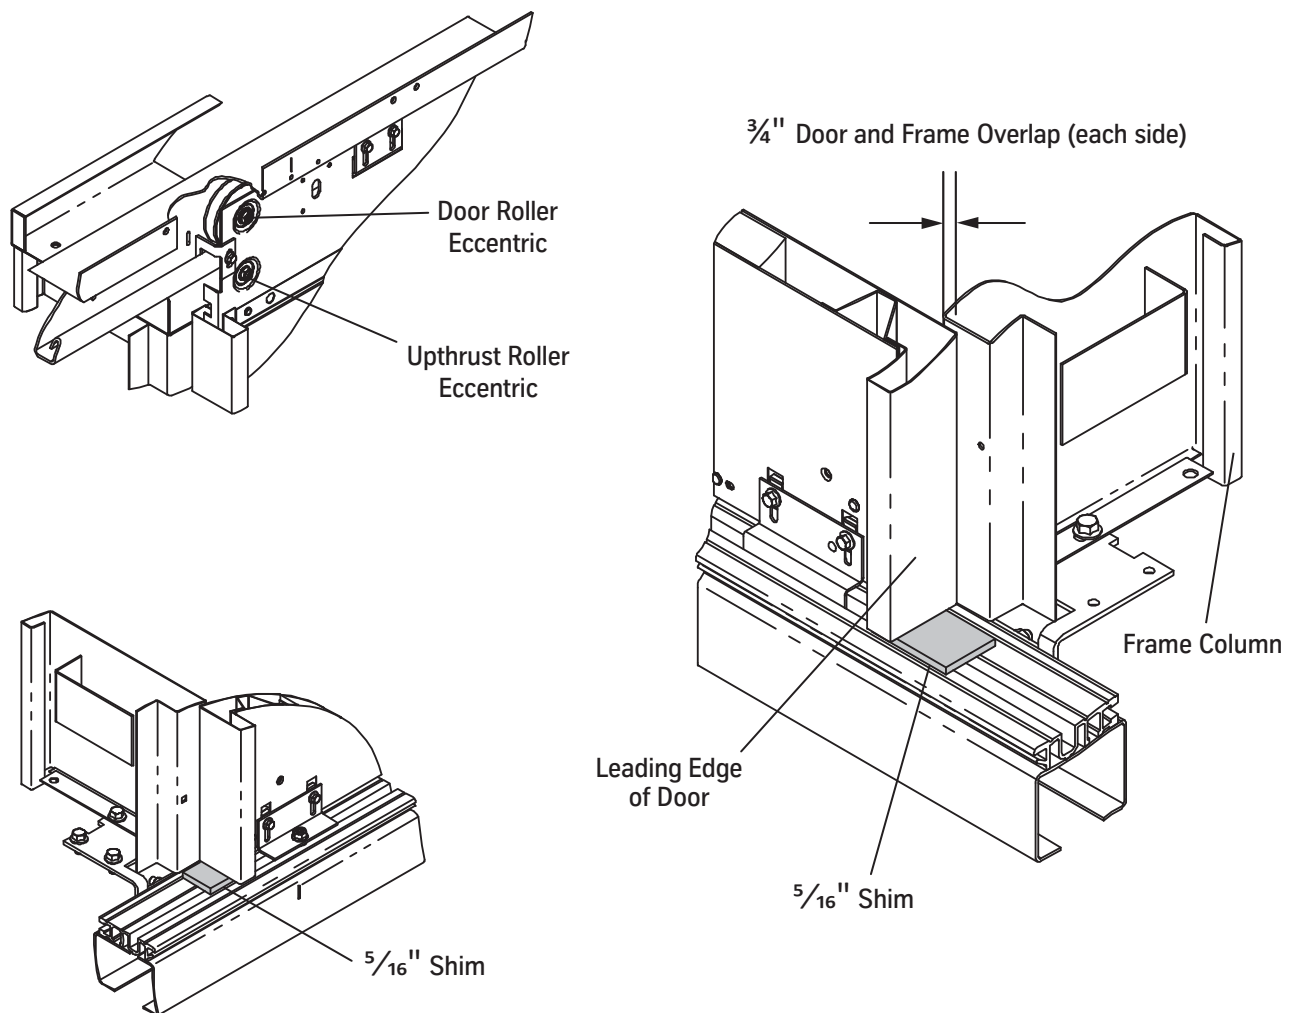

Figure 13 - Adjust Door-to-Sill Running Clearance
1. Place a $\frac{5}{16}$ " shim (running clearance) underneath the leading edge of the door. See Figure 13.